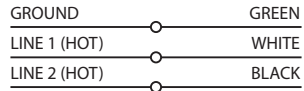

Figure 2
8. Before closing, connect L, N and G wires to the power supply as per **Figure 1** and **Figure 2**. (Figure 9)